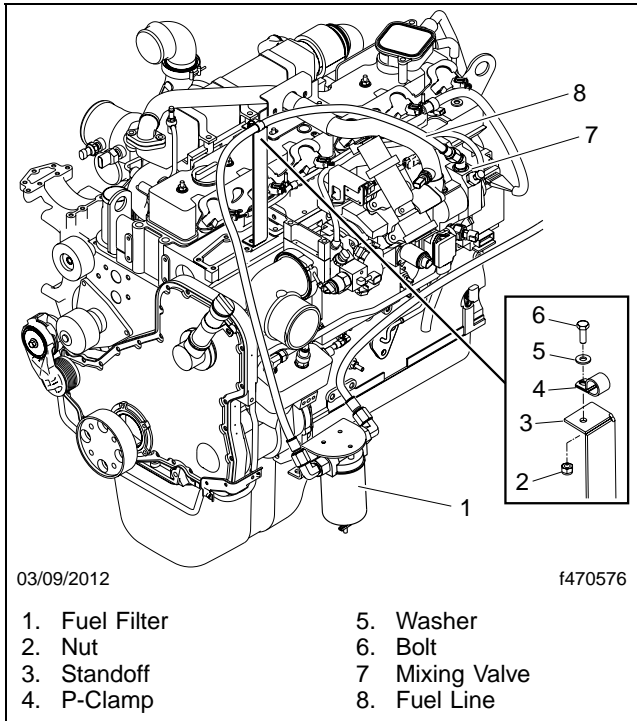

Fig. 9, Fuel Line Installation
5. Disconnect the fuel line at the fuel filter. See **Fig. 9**.